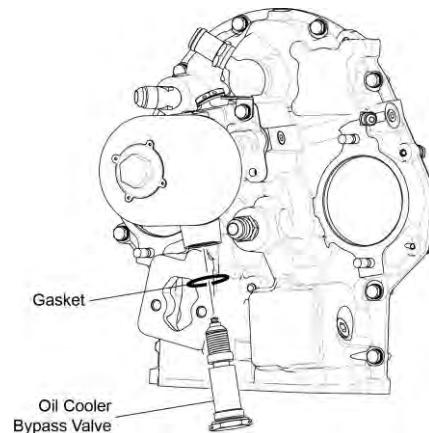

Figure 7
- B. Remove the oil cooler bypass valve (Figure 7) from the oil filter base. Discard the gasket.
- B. Install the oil cooler bypass valve with a new gasket on the oil filter base as shown in Figure 7.